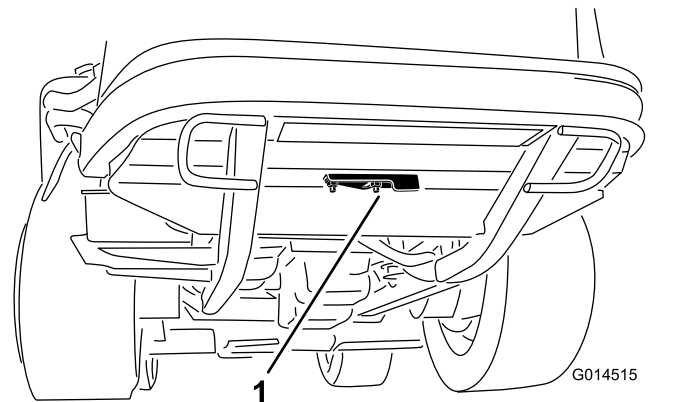

Figure 42
2. Loosen the flange nut securing the clean-out cover to the underside of the rear frame (Figure 42). Rotate the cover to the side to expose the clean-out hole in the frame.